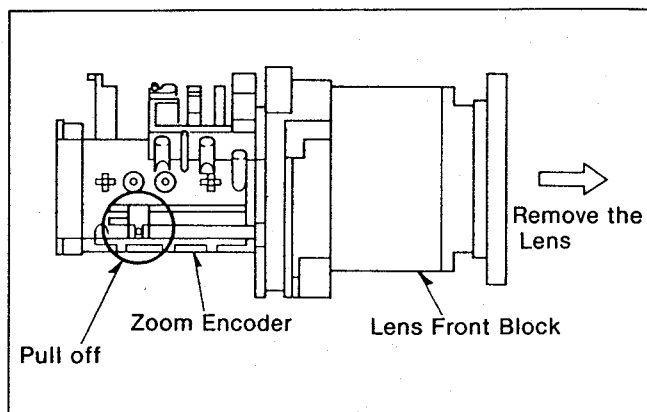

Fig. C6
- (3). Pull off the hook on the Zoom Encoder. And Pull up the Lens to right as shown in Fig C6.
- (1). Insert the 4TH Moving Frame unit so that insert the Zoom Guide Pole and Focus Guide Pole as shown in Fig. C6.